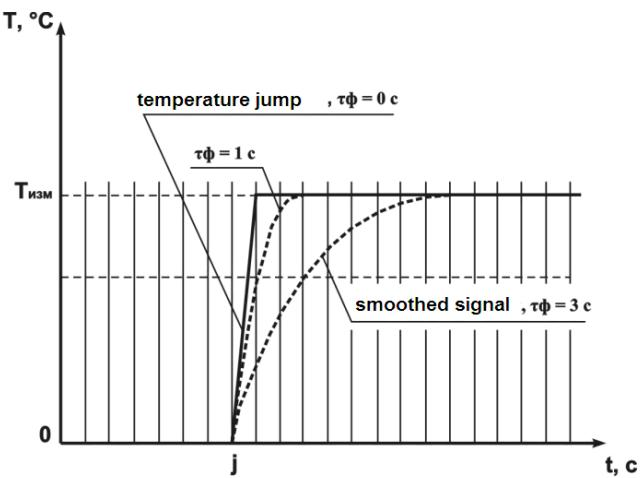

Figure 3.6
3.2.4.2 The digital filter eliminates the noise signal components by smoothing it exponentially. The main characteristic of the exponential filter is **тф** – the digital filter time constant, **Fт1** (**Fт2**, **Fт3**, **Fт4**) interval, within which the temperature reaches the 63,2% from measured value **Тизм** (Figure 3.6).